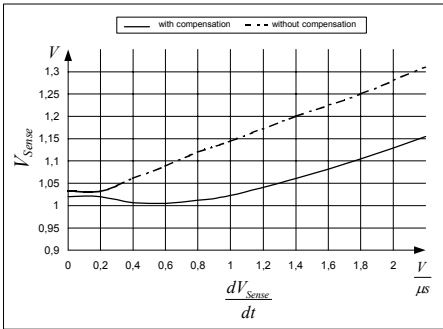

Figure 13 Overcurrent Shutdown
the overshoot dependency on dI/dt of the rising primary current. That means the propagation delay time between exceeding the current sense threshold V_{csth} and the switch off of the external Power Switch is compensated over temperature within a wide range. Current Limiting is now possible in a very accurate way (see Figure 13).
E.g. $I_{peak} = 0.5A$ with $R_{Sense} = 2$. Without Propagation Delay Compensation the current sense threshold is set to a static voltage level $V_{csth}=1V$. A current ramp of $dI/dt = 0.4A/\mu s$, that means $dV_{Sense}/dt = 0.8V/\mu s$, and a propagation delay time of i.e. $t_{Propagation Delay} = 180ns$ leads then to an I_{peak} overshoot of 12%. By means of propagation delay compensation the overshoot is only about 2% (see Figure 13).